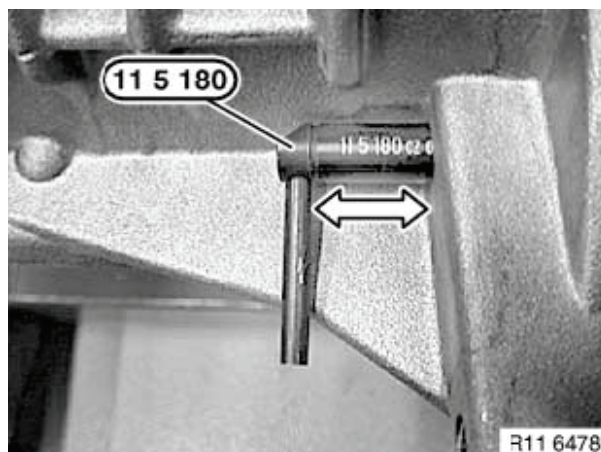

Figure 5-77
5. Secure crankshaft in TDC position with flywheel holding tool OEM No. 11 5 180 (Figure 5-77).